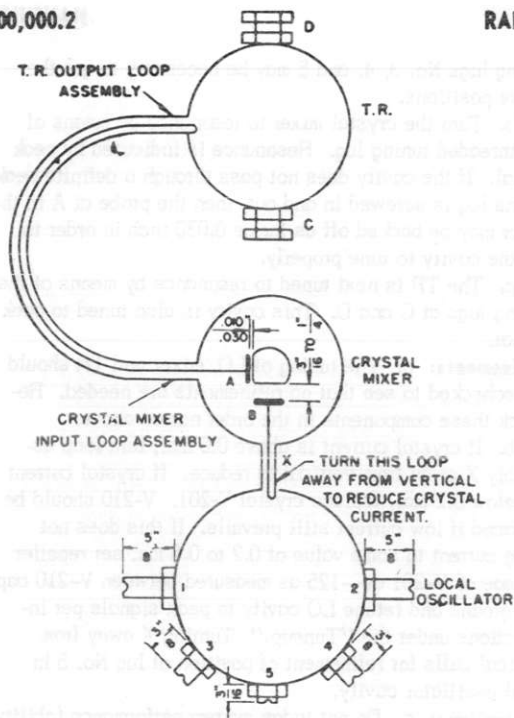

FIGURE 1.—Schematic of r-f components.
The following discussion was prepared at the request of the Bureau of Ships. This information is reprinted for information to SF and SF-1 radar-equipped vessels. Radar personnel are urged to read this material and study it carefully before attempting any readjustments. When making an adjustment, always note the exact positions of the controls in the event trouble is experienced and it is necessary to reset the equipment to the original settings. (Refer to fig. 1).
d. The tuning lugs in the local oscillator cavity should be set initially to the positions shown in figure 1.
Tuneup: a. Set local oscillator tuning potentiometer R-506 on receiver indicator so that the repeller voltage is approximately 50 volts as measured from cap of V-210 to ground. Adjust tuning lug No. 5 (see fig. 1) until maximum targets appear on "A" scope. There should be more than one position of this lug where targets are tuned in, and it is advisable to use the position that gives highest crystal current.
It should not be necessary to make any adjustments of lugs Nos. 1 and 2. It may be necessary to screw lugs Nos. 3 and 4 in or out a few turns if either or both modes are not found when tuning lug No. 5. Lugs Nos. 3 and 4 should be adjusted in unison; that is, if necessary to tune No. 3 in four revolutions to reach the desired mode, it would be better to tune No. 3 in 2 revolutions and No. 4 in 2 revolutions. The relationship of the four lugs should be approximately the same as shown in figure 1: Nos. 1 and 2 farthest out of the cavity, Nos. 3 and 4 not quite so far out and No. 5 farthest in cavity. A little refinement of